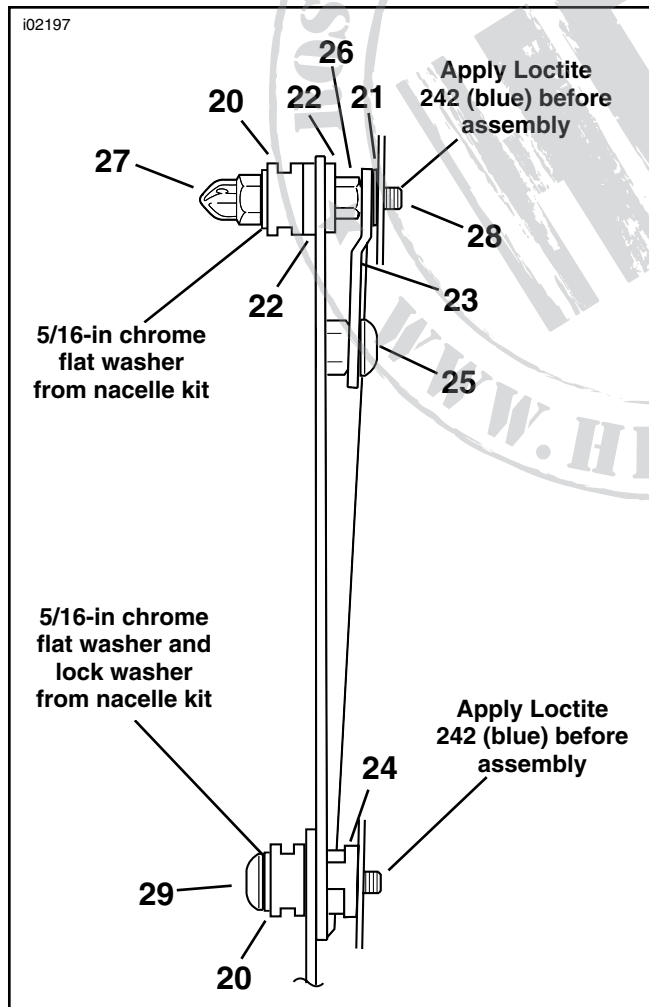

Figure 1. Hardware Stackup (1999 and Earlier Models)
1. For 1999 and earlier models, see Figure 1.